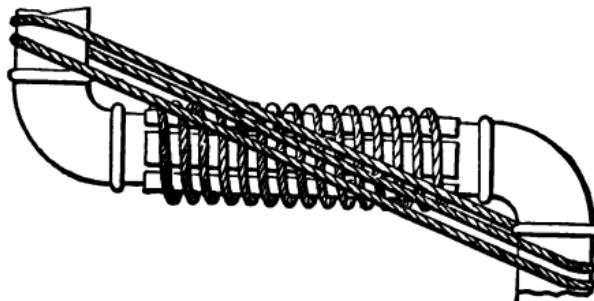

FIG. 87.
A. Bind the joint with wood strips sewed well around with stout cord or rope, and prevent endwise separation by more rope diagonally across the break from one reach of pipe to the other. Then when the wood and the cord get wet with the steam the joint will be even tighter than before, because the wood will swell and the cords shorten. (See Fig. 87.)